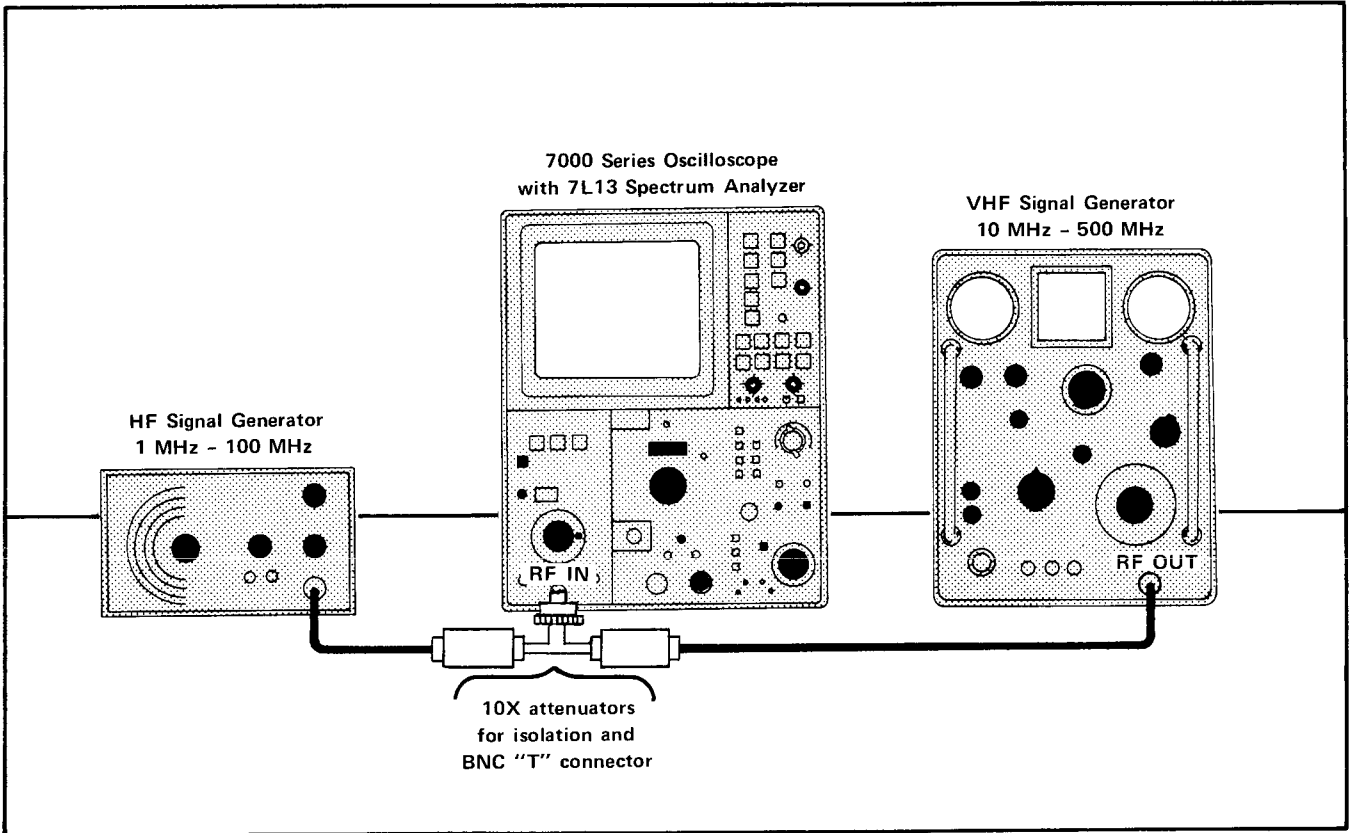

Fig. 3-7. Equipment setup and connections necessary to measure intermodulation distortion.
b. Apply two signals that are separated approximately 2 MHz, from the output of two  $50 \Omega$  signal sources, through 10X attenuators (for isolation), then through a BNC "T" connector, to the RF INput of the 7L13. Fig. 3-7 illustrates this setup.